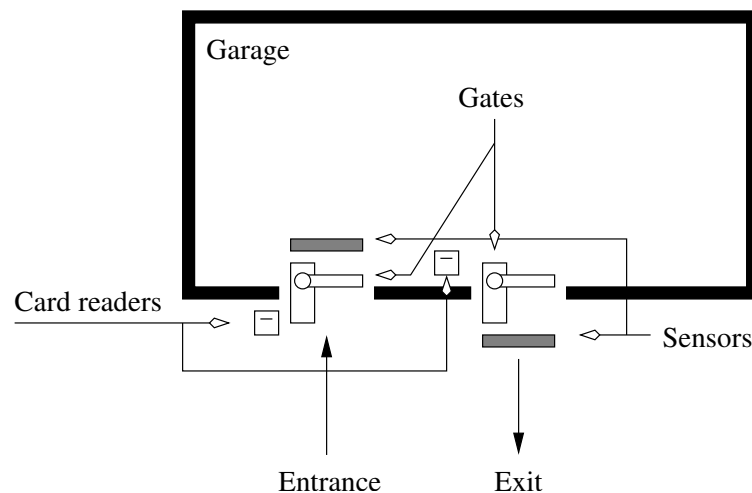

Figure 8.5: The layout of an automated garage.
14. **(36 pts.)** Design a digital circuit to control access to an automated parking garage containing 828 parking spaces. Drivers pull up to the garage's gate and insert their pass card into a card reader. The card reader sends the pass card ID number to the digital circuit. If their pass card has a valid code then the gate opens. There is a pressure sensor just inside the entry way which sends a signal to the circuit whenever a significant load is present (over 150 lbs). The exit procedure is similar, the users have to insert their pass card into a card reader. The digital circuit then raises the exit gate bar, a pressure sensor at the exit tells the circuit when it is OK to close the exit gate. See Figure 8.5.